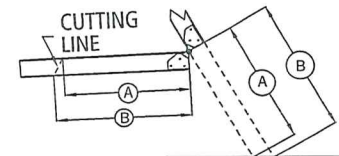

FIGURE 7
B. With a straight edge, measure distances from middle section to floor, for both A & B lengths (figure 7).